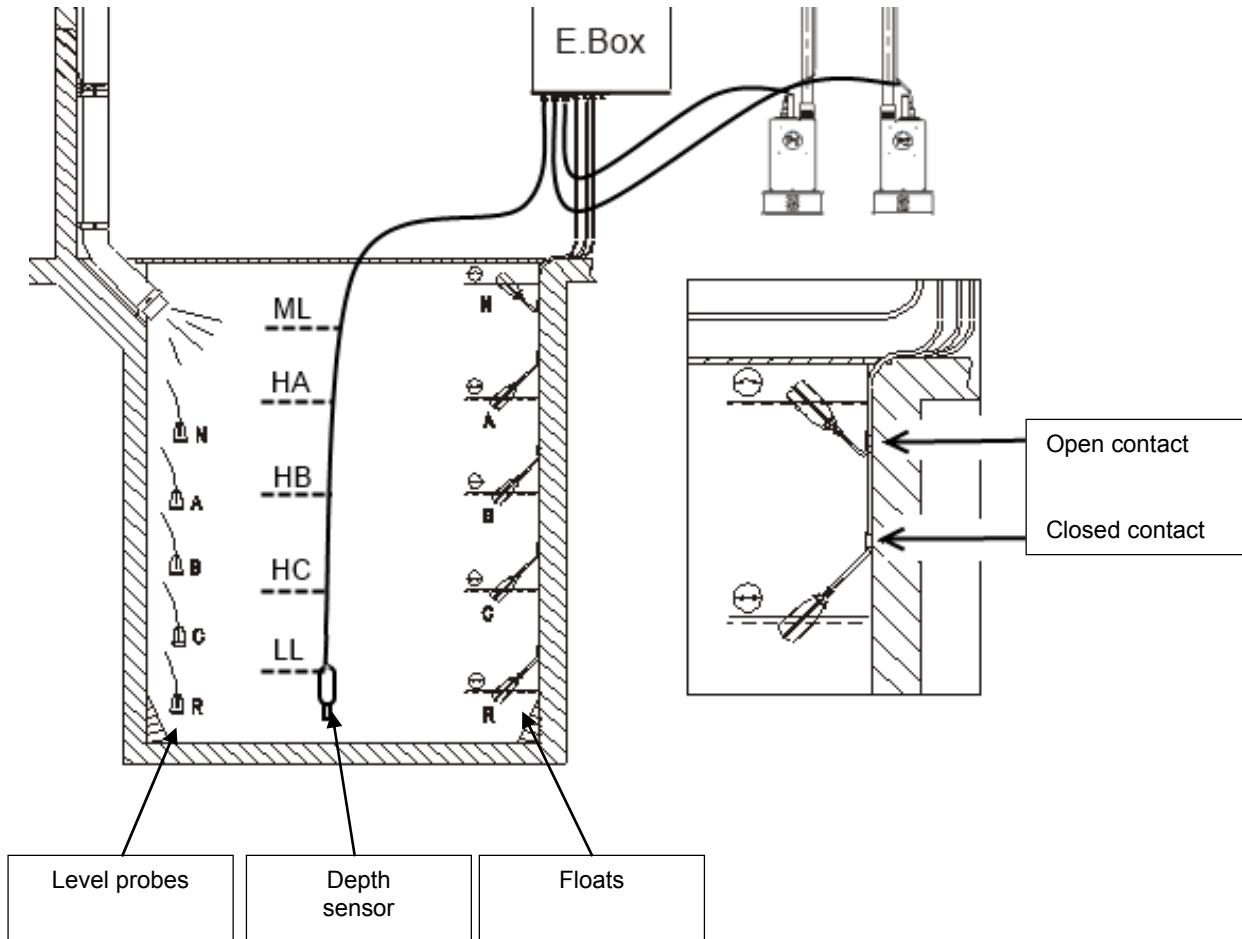
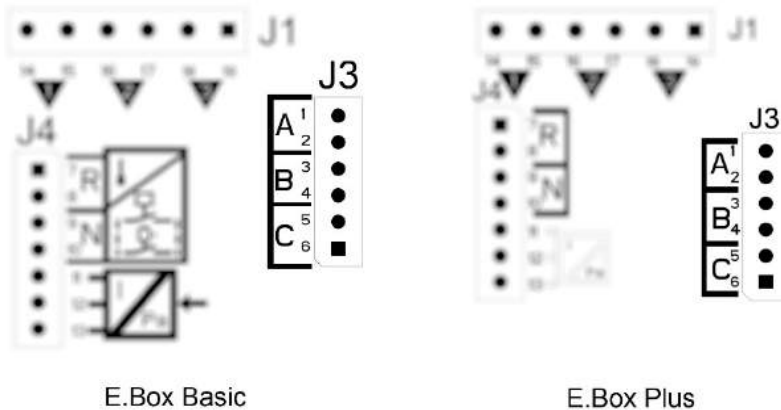

Figure 19: Diagram of filling system inputs
Figure 22: Inputs
- Use floats for filling, closed contact with low water level, see Figure 19 Diagram of filling system inputs.
- **System with 2 floats:** in this case inputs B and C are used (A must not be used). The floats in the tank must be positioned as in Figure 19. For electrical installation, see Figure 22.
- **System with 2 level probes:** in this case inputs B and C are used (A must not be jumpered). The level probes in the tank must be positioned as in Figure 19. For electrical installation, see Figure 22.
- **System with 3 floats or level probes:** in this case inputs A, B and C are used. The floats or level probes must be positioned as in Figure 19. For electrical installation, see Figure 22.